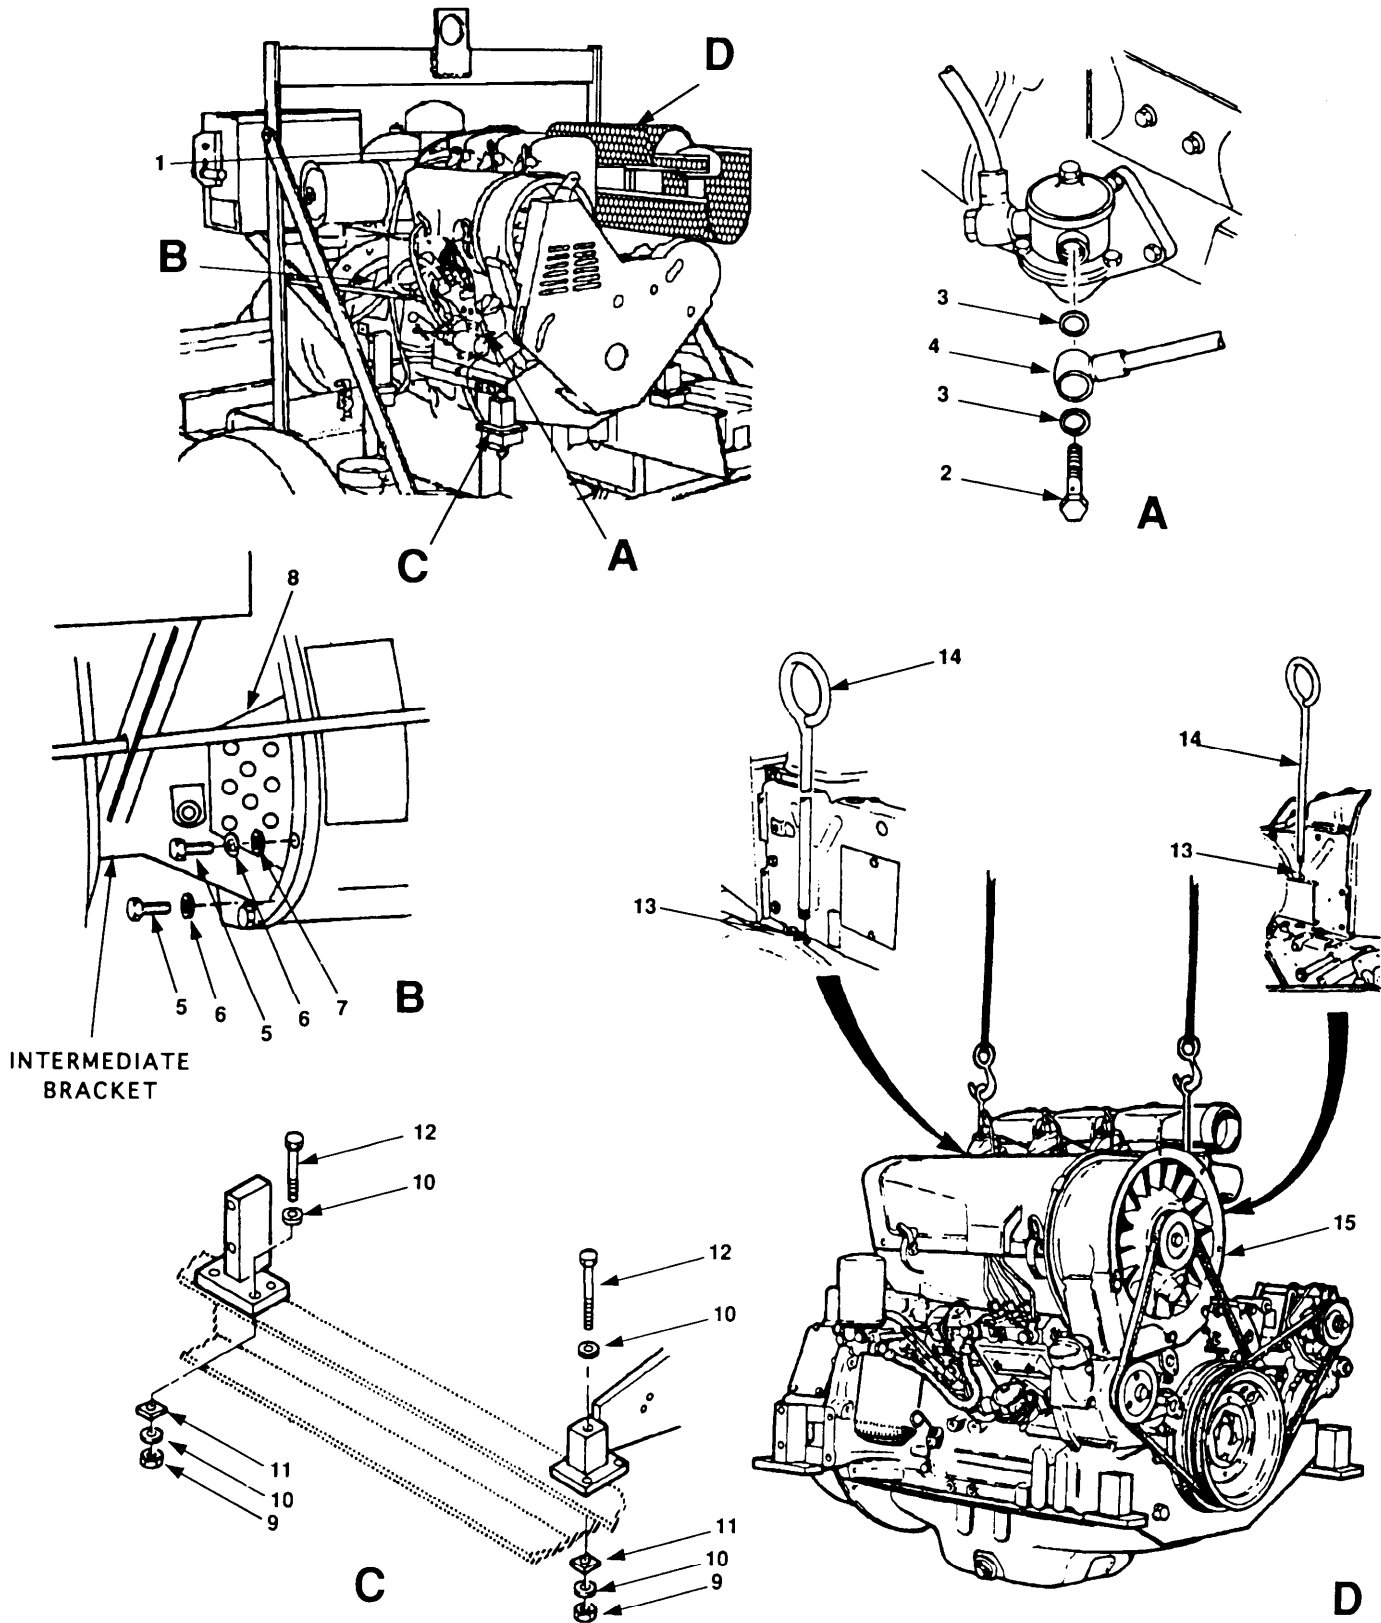

Figure 5-1. Engine Replacement.
- a. Disconnect overflow line (figure 5-1, 1) from injector nozzle to fuel tank.
- b. Remove banjo bolt (view A, 2), washers (3), and hose (4) from fuel pump. Cover hose and fuel pump port to prevent entrance of foreign material into fuel system.
- c. Remove twelve bolts (view B, 5) lockwashers (6), four washers (7) and two shields (8).
- d. Remove six lock nuts (view C, 9), twelve washers (10), six beveled washers (11), and bolts (12) securing engine assembly to mounts.